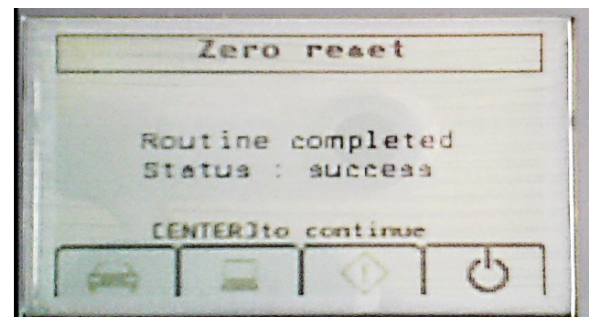

Figure A10
- The screen in Figure A10 will display when zero point reset is complete.